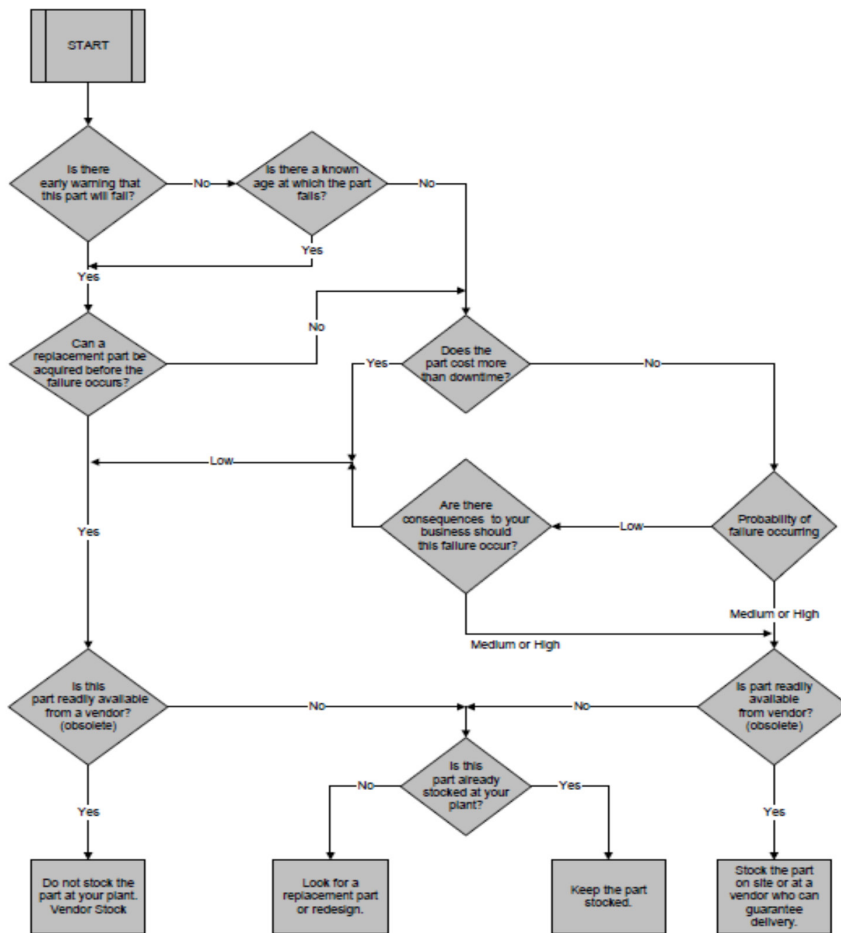

Figure 5: Targeted RCM Decision Diagram
1. Spare Parts – If we are considering running this component to failure, it may be a good idea to have this part stocked on site or with a vendor who can deliver the part in an acceptable period. The Targeted RCM Spare Parts decision diagram is a flow diagram used to lead the RCM team to the best decision for managing spare parts requirements addressed in the RCM analysis as seen in figure 5.